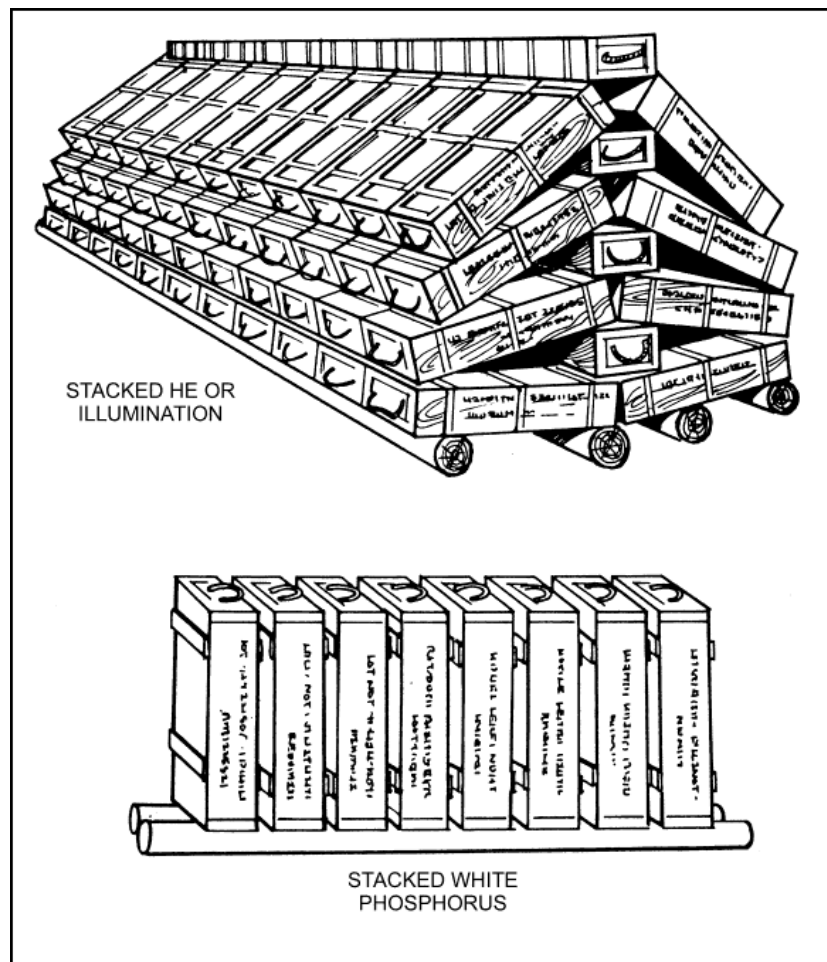

Figure 1-3. Stacked ammunition.
(1) Stack ammunition by type, lot number, and weight zone (Figure 1-3).